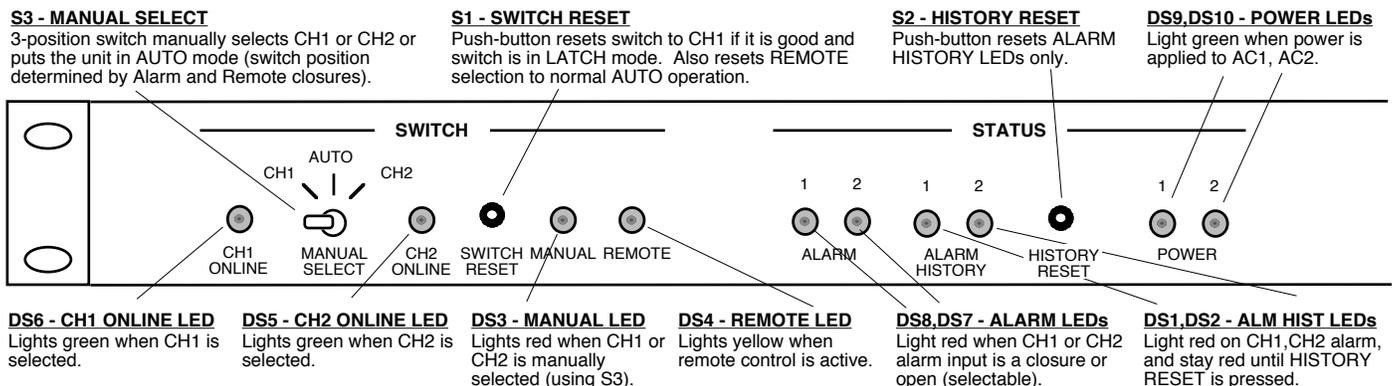

FIGURE 2.3 1582-650 Front Panel Controls and Indicators
1. Set the on board controls as desired (Tables 2.2, 2.3, Figure 2.3).
The following gives the switch mode settings of the on board controls that can be changed in the field with JP1, JP2, JP3, JP4; S4. (Figure 2.3). All shown with external **alarm = ground**.